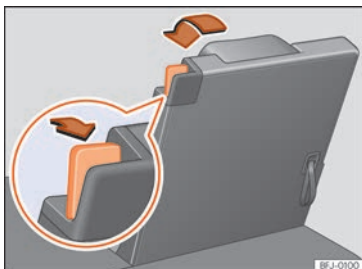

Fig. 118 Third row of seats: place in the cargo floor position.
- Remove any objects located in the footwell in front of and behind the seat » ❶.
- Pull the unlocking lever » Fig. 118 to its rearmost position to unlock the seat backrest.
- Move the seat down with your hand until it is completely against the frame of the seat » ❷.
- When the seat is in loading floor position, do not let anyone travel in it (not even a child) » ❸.
- Pull the cord on the backrest of the seat » Fig. 118 to lift the backrest. **OR:** lift the backrest with your hand from the cabin.
- The red marking on the unlock lever » Fig. 118 must not be seen.
- Make sure that the seat backrest is correctly engaged by tugging from it and pressing » ❹.
- A red mark on unlock lever » Fig. 118 indicates that the seat backrest is not engaged. If the back rest is locked correctly, the mark is not visible.